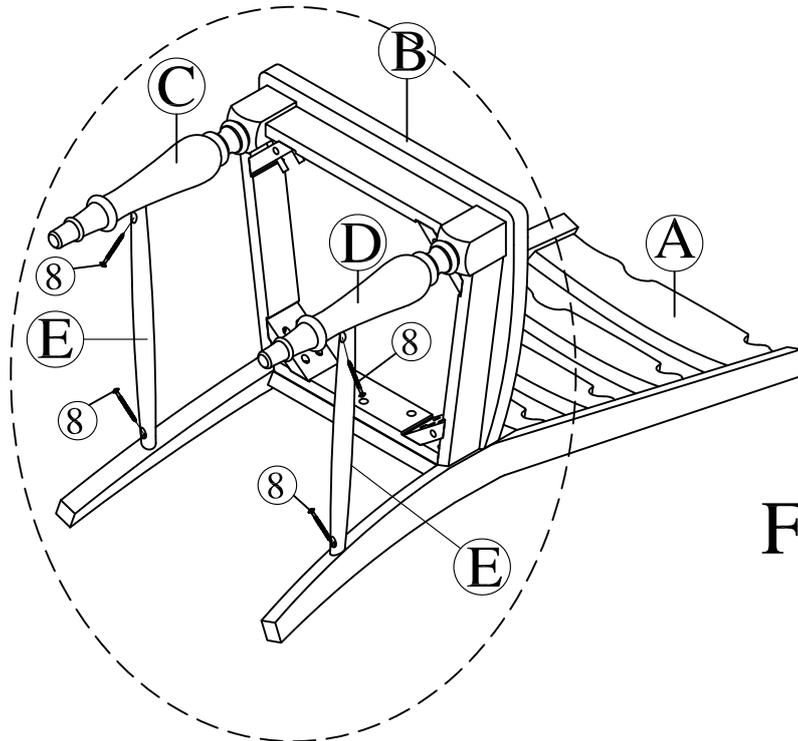

Fig.5
Step 5 : Insert Wood Screw (8) to fasten
All Side stretchers (E) as shown on Fig. 5